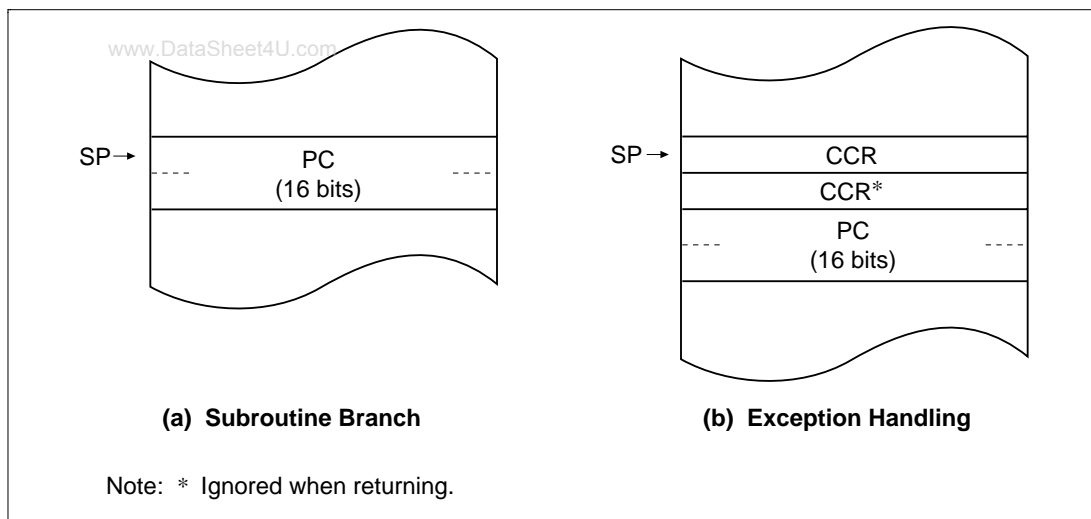

Figure 2.3 Stack Structure in Normal Mode
Stack Structure: When the program counter (PC) is pushed onto the stack in a subroutine call, and the PC and condition-code register (CCR) are pushed onto the stack in exception handling, they are stored as shown in figure 2.3. The extended control register (EXR) is not pushed onto the stack. For details, see section 4, Exception Handling.